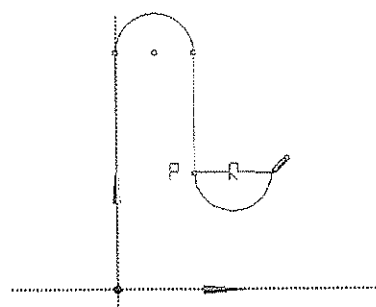

Figure 3-65 Specifying the end point of the arc
22. Move the cursor to the right till the symbol of Equal Radius constraint (R) is displayed. Then click to specify the end point of arc 2; arc 2 is created, as shown in Figure 3-65.